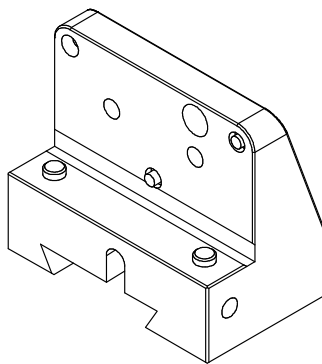

Figure 1
STEP 1. EXAMINING THE TD03 ADJUSTMENT SCREWS The TD03 is shipped with the two adjustment screws assembled as shown in Fig. 1. The screw pads should extend 1/16 inch out from the surface of the TD03.